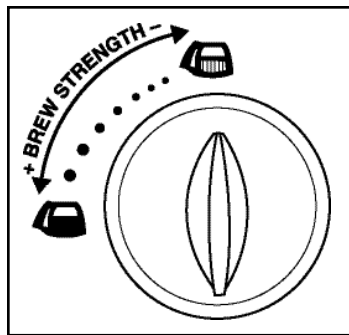

Figure 2
6. Measure one level tablespoon of drip or regular grind coffee for each cup of coffee desired. You may choose to brew your coffee with a stronger brew strength. To do so, adjust the Brew Strength Control Dial located on the top of the unit. The illustration indicates a stronger or lighter brew strength. (See Figure 2)